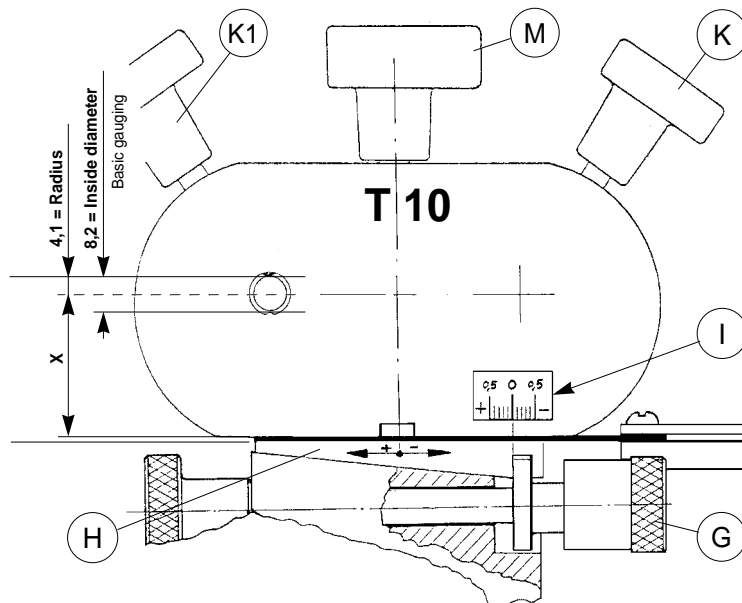

Fig. 13
The vertical excursion of the carriage is obtained by the displacement of the wedge (H) (fig. 13) which offers the possibility to obtain "step cuts" (cuts within cuts) and enlarged cuts (MASTER).
The machine gauging requires (as shown in fig. 13) a distance "X" between the top surface of the wedge (H) and the rotation axis of the key in the device, and a 4,1mm (0.167 in.) radius corresponding to a key, inside diameter of 8,2 mm (0.334 in.) and corresponding to the zero on the setting plate (I). However, it may happen that a key has an inside diameter larger (ex.: CHICAGO MAS. 8,65 mm) or smaller (ex.: FORT MAS. 7,62 mm); than the optional one. In this case, proceed as follow:
- 1) loosen the knob (M).
- 2) rotate the screw (G) clockwise or counter clockwise as required, bearing in mind that each complete turn of the screw corresponds to a 0,1 mm (0.004 in.) change in height.
- 3) when the necessary change has been effected, lock the knob again (M).